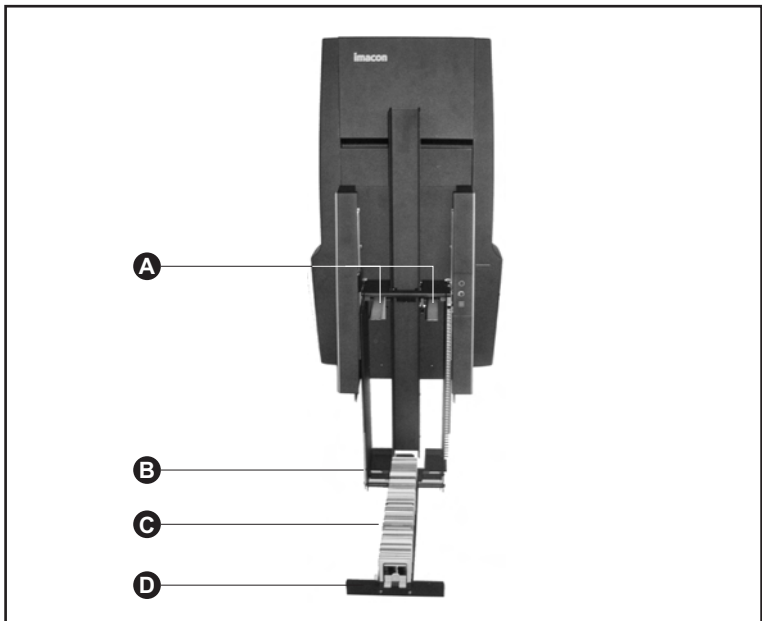

Figure 9: The Slide Feeder with its magazine drawer open, showing the original-holder supports (A), drawer hinge (B), magazine (C) and drawer top (D).
1. Open the magazine drawer by grasping it at the top and pulling it down. It rotates forward on its hinge (B) and then stops, exposing the magazine (C) with magazine drawer top (D) facing out (see Figure 9, below).
2. Go to your scanner and open the magazine drawer by grasping it at the top and pulling it down. It rotates forward on its hinge (B) and then stops, exposing the magazine (C) with magazine drawer top (D) facing out (see Figure 9, above).